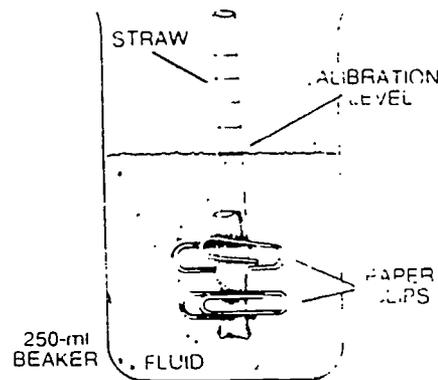

Fig. 3 Homemade hydrometer.
1. In this part you will use an ordinary plastic straw to make a "crude" hydrometer. You will use your hydrometer to make several "rough" measurements of specific gravity. Refer to Figure 3 and follow the simple instructions outlined in the steps that follow.
2. Bend about one inch of the straw up along itself. Hold the "bend" in place with two paper clips. This arrangement must form a tight seal, preventing fluid from entering the straw. (See Figure 3.)
3. Fill a clean, 250-ml beaker about $\frac{1}{2}$ full of 100% RV antifreeze. Insert the "straw hydrometer" into the antifreeze. Be sure it floats upright, without its bottom end touching the beaker. (See Figure 3.)
4. At the level of the antifreeze, mark a thin, horizontal line on a white portion of the straw. See Figure 3. At this line, the hydrometer should be assigned the specific gravity value for 100% RV antifreeze. You can get this value with one of the accurate, scaled hydrometers.